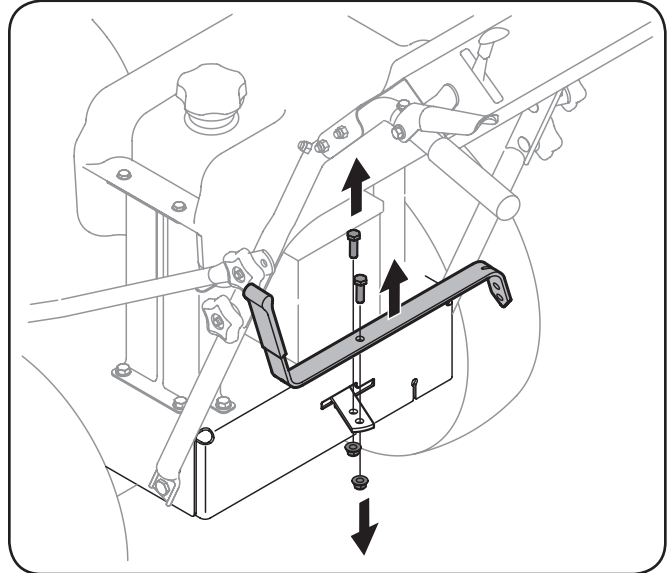

**Figure 3-4**
2. Pivot the upper handle into operating position. Be careful not to crimp cables. See Figure 3-4.
4. Tighten the upper and lower star knobs and carriage screws to secure the upper handle to the lower handle. See Figure 3-4.